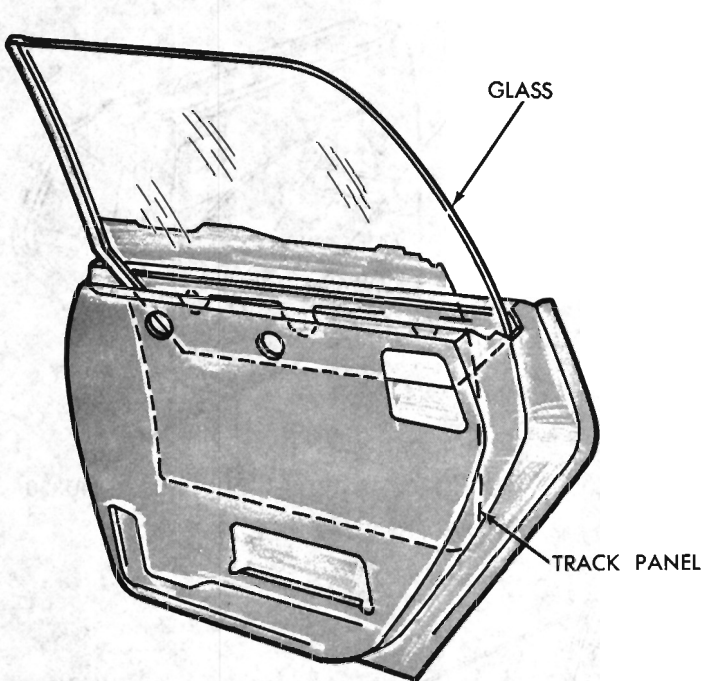
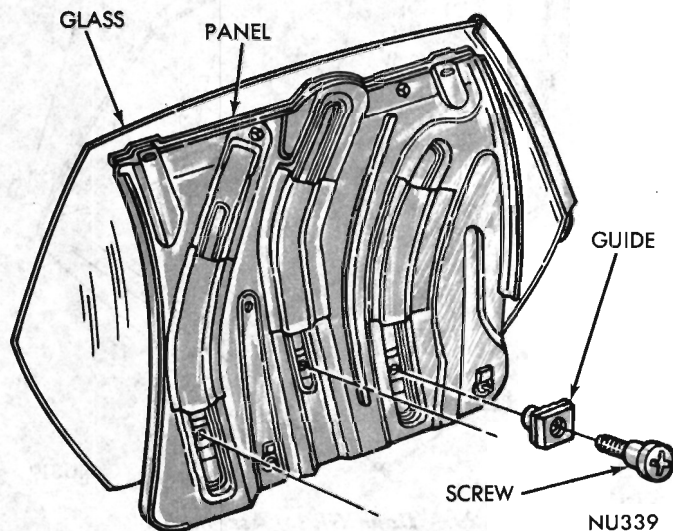

Fig. 30 - Glass and Track Panel Replacement
Fig. 31 - Track Panel Stabilizer Guides
(7) Raise track panel completely and remove glass and panel assembly (Fig. 30).
(8) Place track panel and glass assembly on a protected surface with the glass facing downward.
(9) Remove track stabilizer guide screws (Fig. 31) and remove guides from track panel.